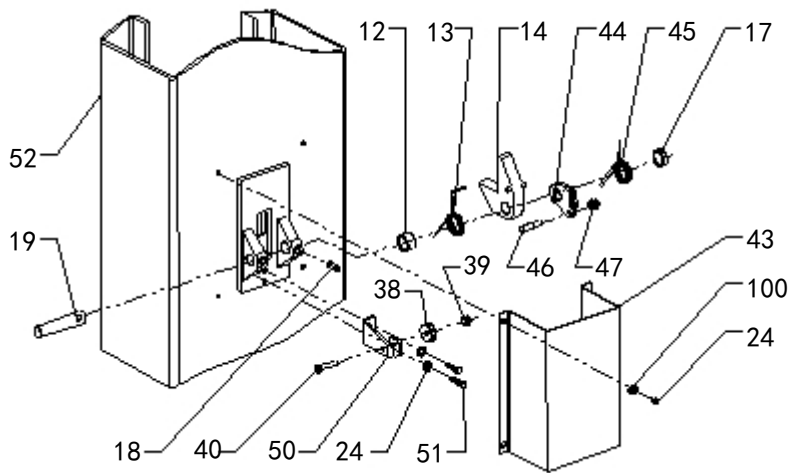

Fig. 25 Off-side safety device
J. Install safety device (See Fig. 24 & Fig. 25).